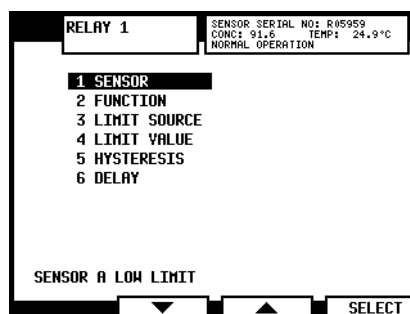

Figure 6.6 Relay menu for Relay 1
4. In the Relay menu (see Figure 6.6) select 1 SENSOR to assign the current relay to either Sensor A or Sensor B.
Note: The current assignment of the relay is shown at the bottom of the Relay menu display, e.g. Figure 6.6 Relay 1 is assigned to Sensor A with function Low limit.
6. If you choose either low limit or high limit as relay function, you'll have define a limit source. For this, select 3 LIMIT SOURCE in the Relay menu (Figure 6.6).
7. The **Limit value** is set separately by choosing 4 LIMIT VALUE in the Relay menu (Figure 6.6) and entering a numeral limit value.
8. The **Hysteresis** value is set by choosing 5 HYSTERESIS in the Relay menu (Figure 6.6). The value indicates how soon the relay opens after the process has temporarily gone over the high limit or under the low limit. For example if the high limit is 50 and the hysteresis is 2, the relay will not reopen until the process drops below 48.
9. To change the **relay delay time**, choose 6 DELAY in the Relay menu (Figure 6.6). The delay is given in seconds, factory setting is 10 s.